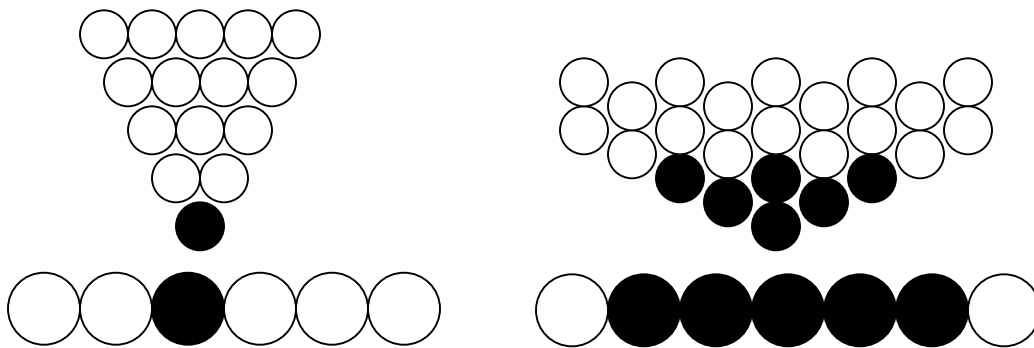

Fig. 4.2 Schematic of tip-sample interaction areas in STM (left) and AFM (right)
- Therefore, a sharp tip has a more lateral (XY) resolution than the blunt tip. The blunt tip can result from a defect in fabrication process, accumulation of debris or wear during imaging.
- STM has a greater lateral resolution than AFM. This is due to the fact that unlike AFM, tunneling interaction is exponentially dependent on tip-sample separation. This results in STM tip consisting of a single atom while AFM tip consists of a few atoms. Fig. 4.2 shows the tip and sample (white circles) and interaction areas (represented by black circles) in STM (left) and AFM (right) respectively.